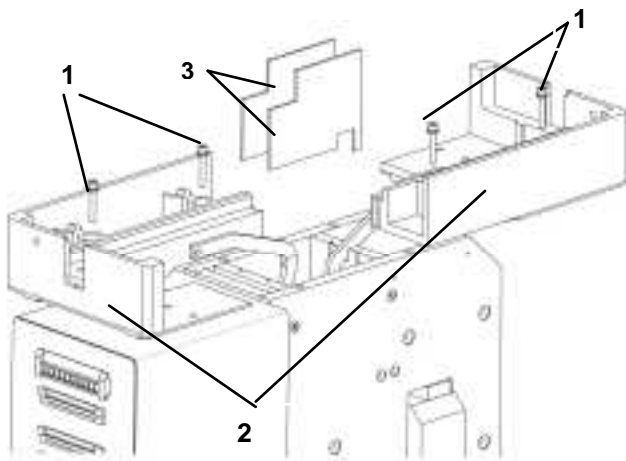

Fig. 43 Adapter and protective walls
- [Fig. 43]. To dismantle the arc chute adapter, loosen and pull out the four upright screws (1) using SW5 tool. Pay attention that no screws or washers fall inside the breaker!
- [Fig. 43]. Draw aside and lift off both parings of adapter (2). Then pull out two protective walls (3).
- [Fig. 43]. Install the two protective walls (3). Use new ones if necessary. Install two parings of adapter (2) and tighten screws (1) use 10 Nm [88 in-lbs].